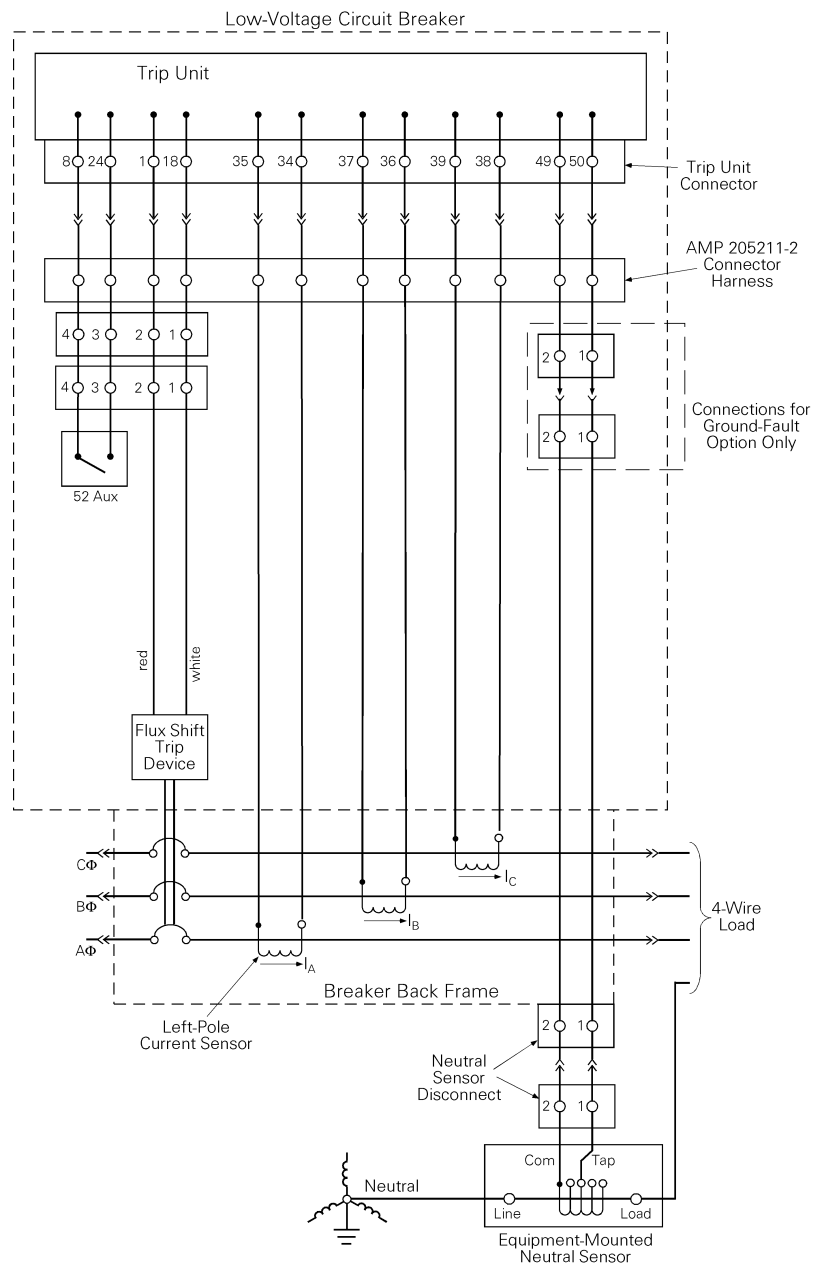

Figure 15. Cabling diagram for ProTrip™ trip units with ground fault on four-wire loads.
common, black lead to tap), as shown in the cabling diagram in Figure 15.
4. On ground fault breakers serving four-wire loads, check that the neutral sensor is properly connected, as indicated in Figure 15. In particular, check the following: